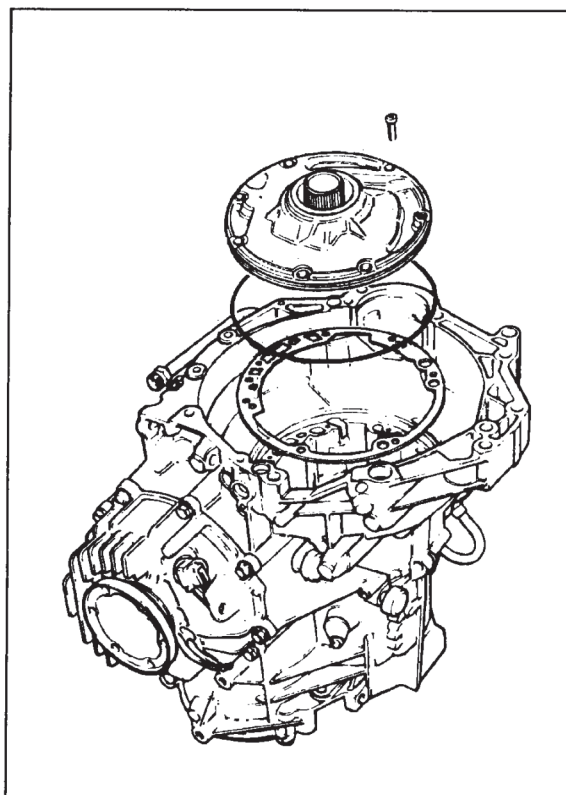

Figure 161
31. Install a new pump gasket and O-ring on the pump, and set the pump assembly into the case (See Figure 161).